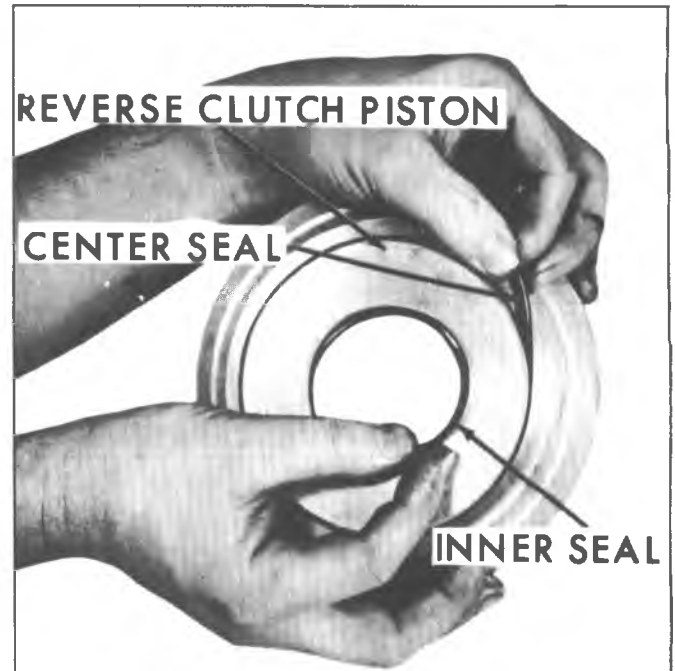

Fig. 7A-52B--Removing Low and Reverse Clutch Piston Center and Inner Seal
25. Remove low and reverse clutch piston center and inner seal (fig. 7A-52B).